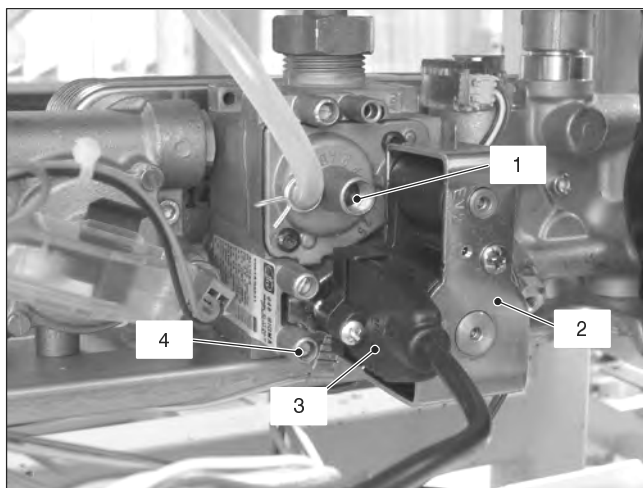

Fig. 11.2
11.2 Description of the parts (Fig. 11.2)
- 3 Loosen the internal screw on the Inlet Pressure Test Point 4 (Fig. 11.2) of the Gas valve and connect a pressure gauge using a suitable hose.
- 10 Disconnect the pressure gauge and close the Inlet Pressure Test Point 4 (Fig. 11.2).
- 21 Read the CO₂ % value. It should be between 8,8 and 9,0 %. To adjust the CO₂ % value remove the brass plug by unscrewing it and rotate the plastic screw 1 (Fig. 11.2) (by rotating it clockwise the CO₂ % increases).
- 27 After adjustment fit the protective brass plug (1, Fig. 11.2).
- 2 Disconnect the electrical connector 3 (Fig. 11.2).
- 8 Remove the brass plug and turn the plastic screw 1 (Fig. 11.2) fully clockwise until it stops. Do not overtight.